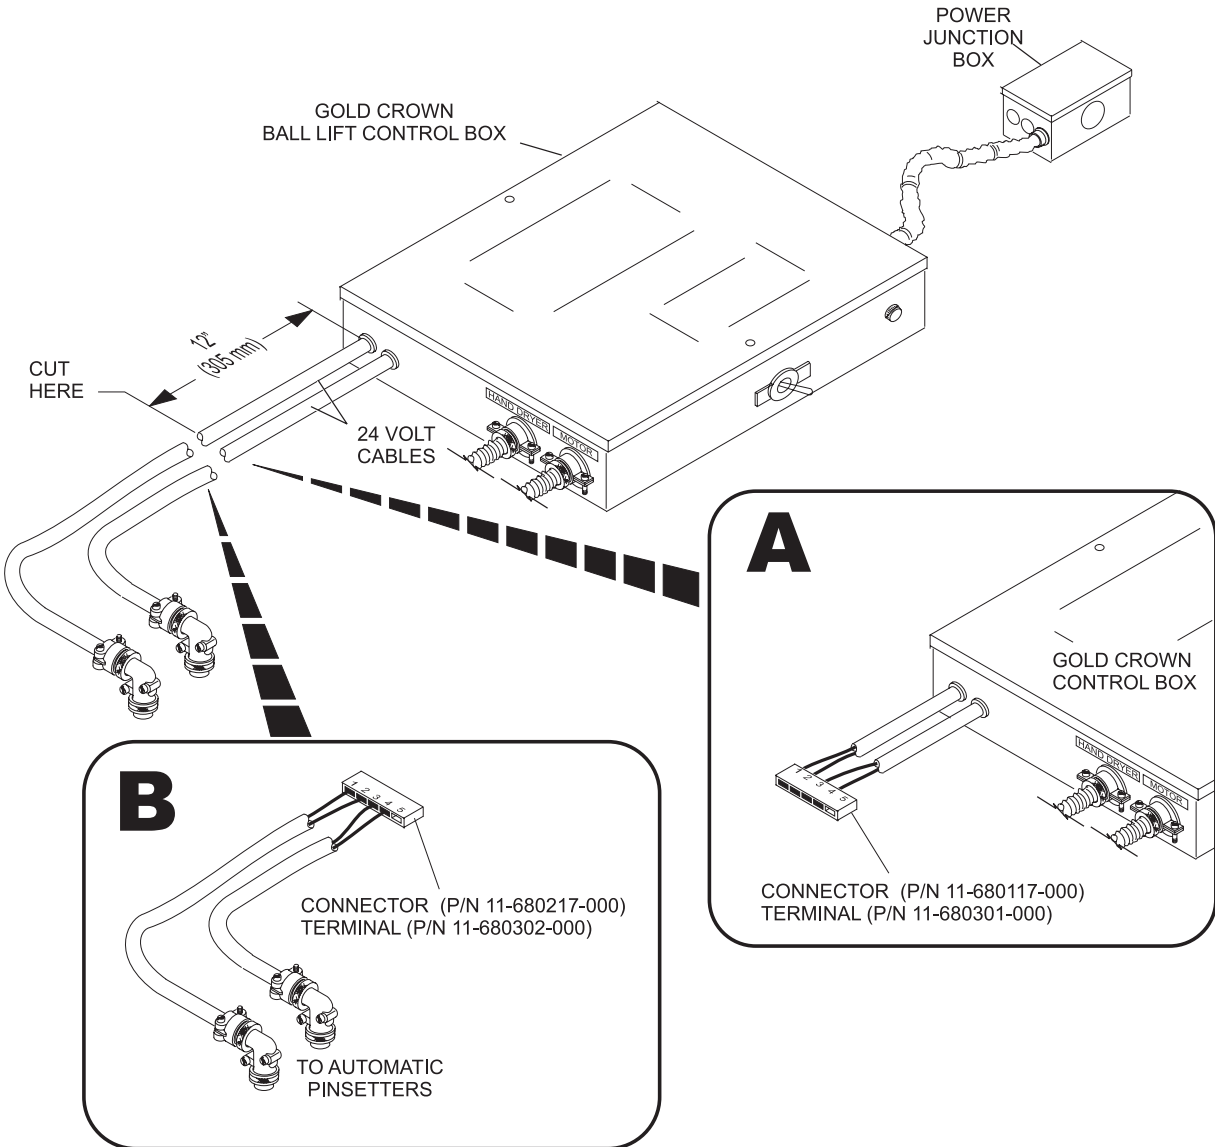

Figure 3
1. Locate the two 24 volt pinsetter cables coming out of the ball lift control box. Refer to *Figure 3*.
2. Cut the 24 volt cables approximately 12" (305 mm) from where they enter the ball lift control box. Refer to *Figure 3*.
4. Install terminals (P/N 11-680301-000), on the two 24 volt cables going into the ball lift control box. Refer to *Figure 3 Inset A*.
5. Install terminals (P/N 11-680302-000), on the two 24 volt cables that go back to the pinsetter. Refer to *Figure 3 Inset B*.
6. Install connector (P/N 11-689117-000), on the two 24 volt cables coming from the ball lift control box. Refer to *Figure 3 Inset A*.
7. Install connector (P/N 11-680217-000), on the two 24 volt cables going to the cannon connectors. Refer to *Figure 3 Inset B*.